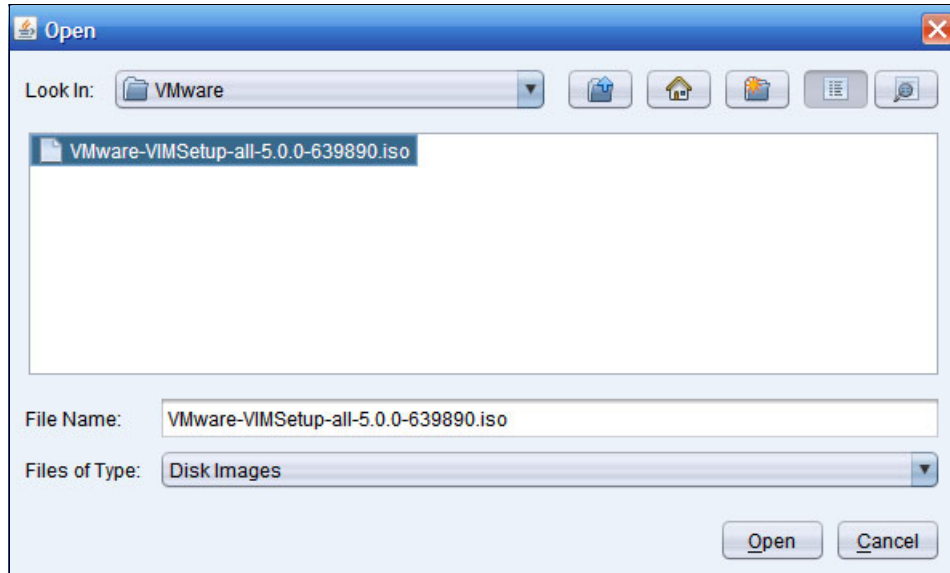

Figure 7-62 Open dialog box
7. You are prompted to select an image from your local computer. Select the image that you want to mount and click **Open**, as shown in Figure 7-62.